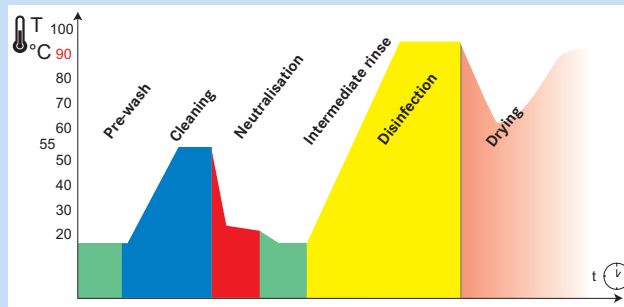

Fig.1 Diagram of the program sequence of Vario TD-programme
* Should the Miele washer disinfectant be unavailable, please observe the parameters of the Vario TD-program sequence (see fig. 1)
4. Start the Vario TD-programme (for diagram of program sequence see fig. 1) including thermal disinfection.